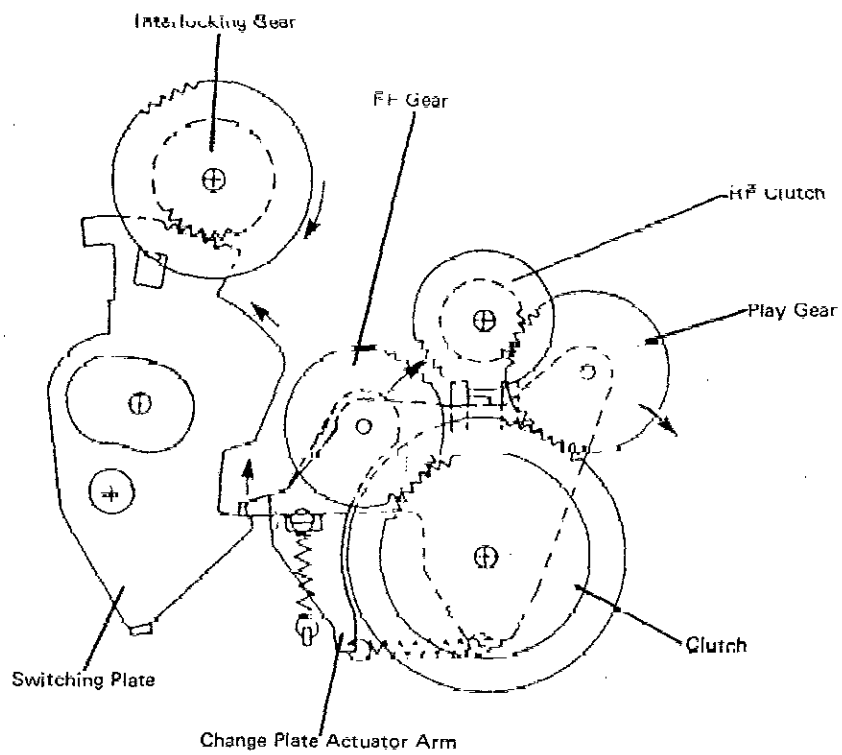

Fig. 6 Reel Revolution Switching Mechanism
4. Selects the rotational frequency of the reel (Fig. 6).